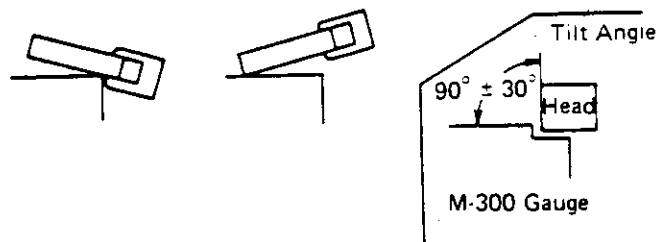

FIGURE 4-22. HEIGHT ADJUSTMENT GAUGE PLACEMENT
- 1) Place the height adjustment gauge (M-300 or AI-500) on the head base, and adjust the gauge height so that the check bar can enter the tape head guide smoothly (see Figures 4-22, 4-23, & 4-24).